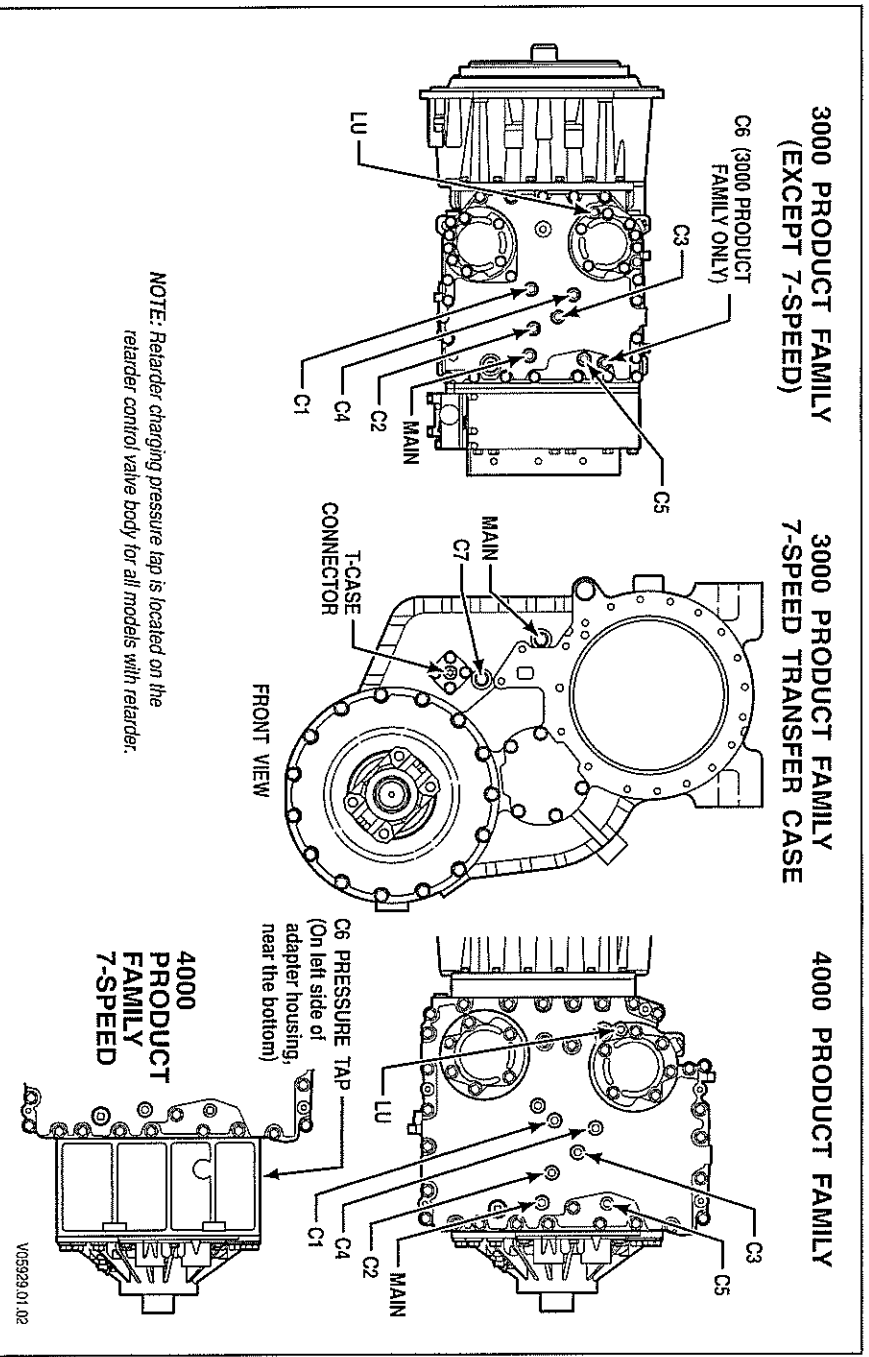

Figure B-1. Clutch Pressure Check Points
1. Remove the plugs from the pressure tap locations where measurement is desired (Figure B-1).